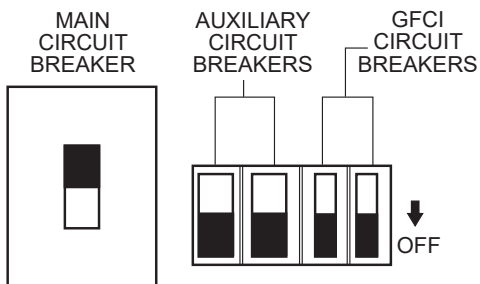

Figure 58. Main, Auxiliary, and GFCI Circuit Breakers (OFF Position)
2. Place the **main, auxiliary, and GFCI circuit breakers** in the **OFF** position (Figure 58).
2. Place the **main, auxiliary, and GFCI circuit breakers** in the **OFF** position as shown in Figure 58.